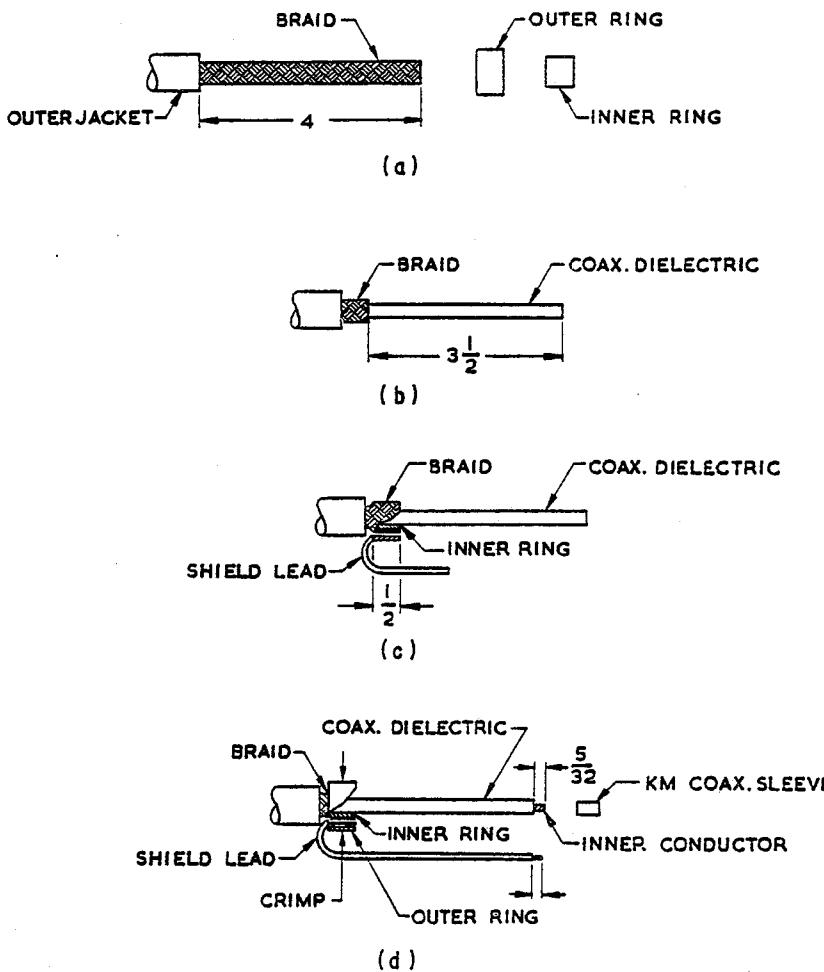

Fig. 6. Coaxial sleeve fitting
Coaxial sleeves (fig.6)
15. With reference to fig.6 fit the coaxial sleeves as follows:—
(1) Trim the outer jacket approximately four inches back from the end of the cable. fig.6(a).
(2) Then cut the cable braid three and a half inches from the end of the cable, fig.6(b).
(3) Insert the inner ring between the braid and the coaxial dielectric as shown in fig.6(c), strip the shield lead $\frac{1}{2}$ in. back from the end.
(4) Then slide the outer ring over the inner ring, braid and shield lead and then crimp with a Thomas and Betts tool size WT-200 or a Burndy tool size MR-8PVS.
(5) After crimping the shield lead to the coaxial cable, strip the end of the cable dielectric and the shield lead $\frac{3}{32}$ in. back from the end, fig.6(d).